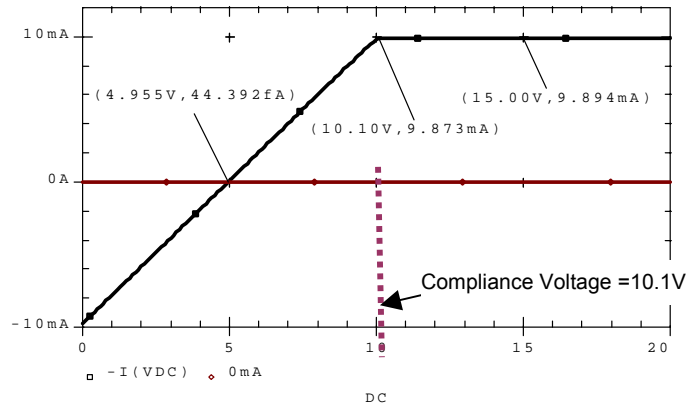
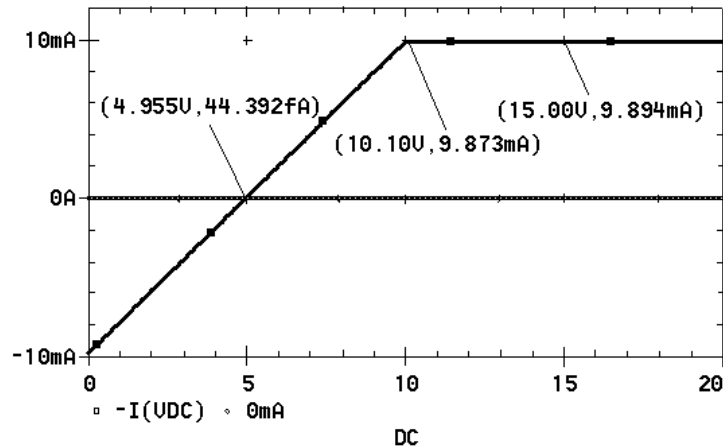

FIGURE 9:
FIGURE 10:
2. DC current vs. DC voltage (called a DC SWEEP) (Figure 9 and Figure 10)
Assuming the default colors have been replaced according to Appendix 2, choose USE SCREEN COLORS. Moving to WORD, we can use the Ctrl+P macro. The plot is in Figure 9 below.
There is another viable choice for pasting figures from PROBE, unlike the case with the SCHEMATIC where only one choice exists. Because PROBE figures are copied to the CLIPBOARD, WORD gives us another option, which is to paste as a device-independent bitmap. We use Ctrl+D. Then we get Figure 10 instead of Figure 9.
Figure 10 uses a different typeface, and does not allow colored curves. It also automatically scales the font size so it looks better in the WORD viewer. When printed out, the two figures look quite different as well. The type size in the labels of Figure 9 is much smaller than it appears in the viewer, and a frame appears around the picture. In
Figure 10, the printed picture has no frame and the labels are larger and in bold face. It's a matter of taste: how much do you like color and WYSIWYG (*what you see is what you get*)?
Example EXCEL chart of the data in Figure 10.
Reciprocal of derivative of the DC I-V plot of Figure 9 to find the output resistance of the mirror.